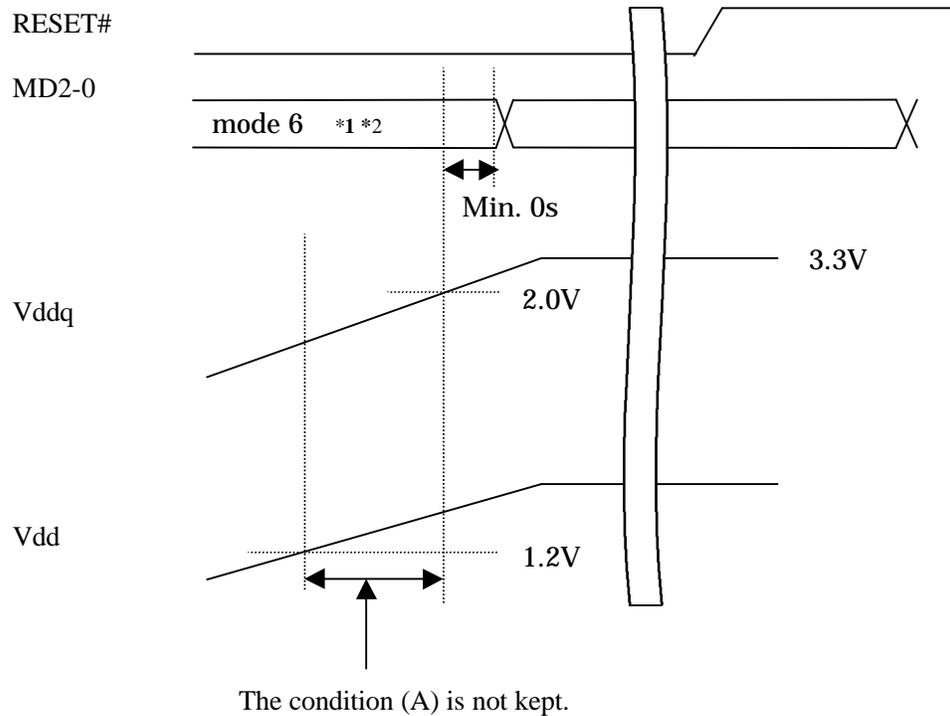

Figure 1. How to once set clock operation mode as mode 6.
- (1) Set the clock operation mode 6\*1 in supplying power, and secure the condition (A), then set desired clock operation mode (shown in Figure 1).
- (2) Once start in the clock operation mode 6\*1, then set desired frequencies by changing FRQCR